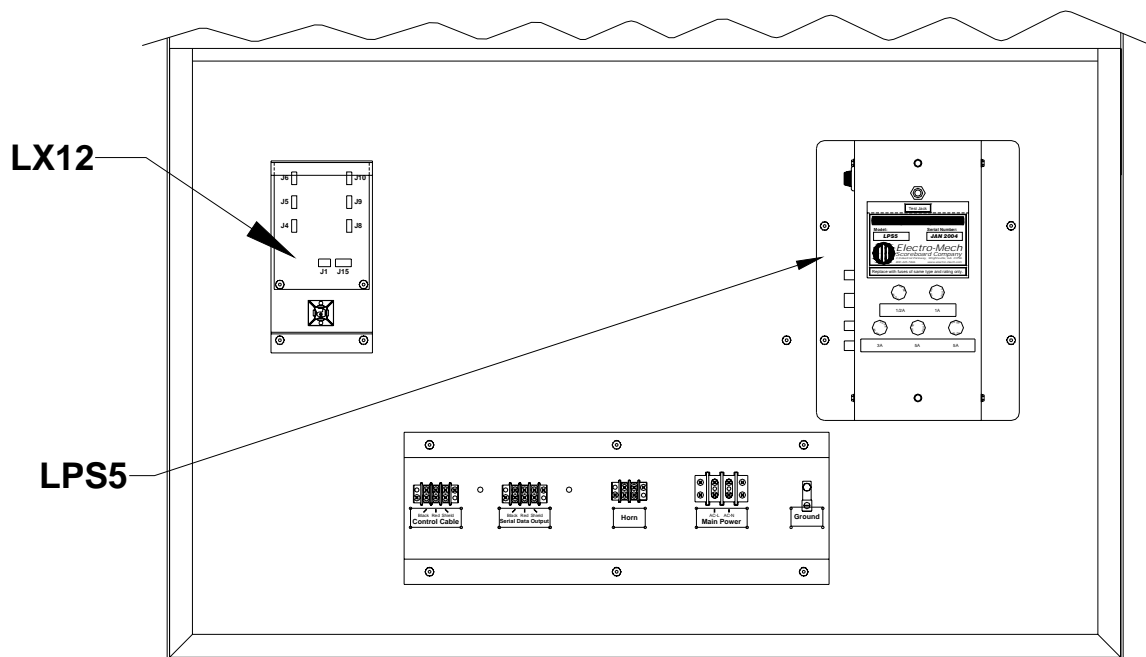

Figure 5 Access Panel Removed
4. Figure 5 shows the view behind the access panel.